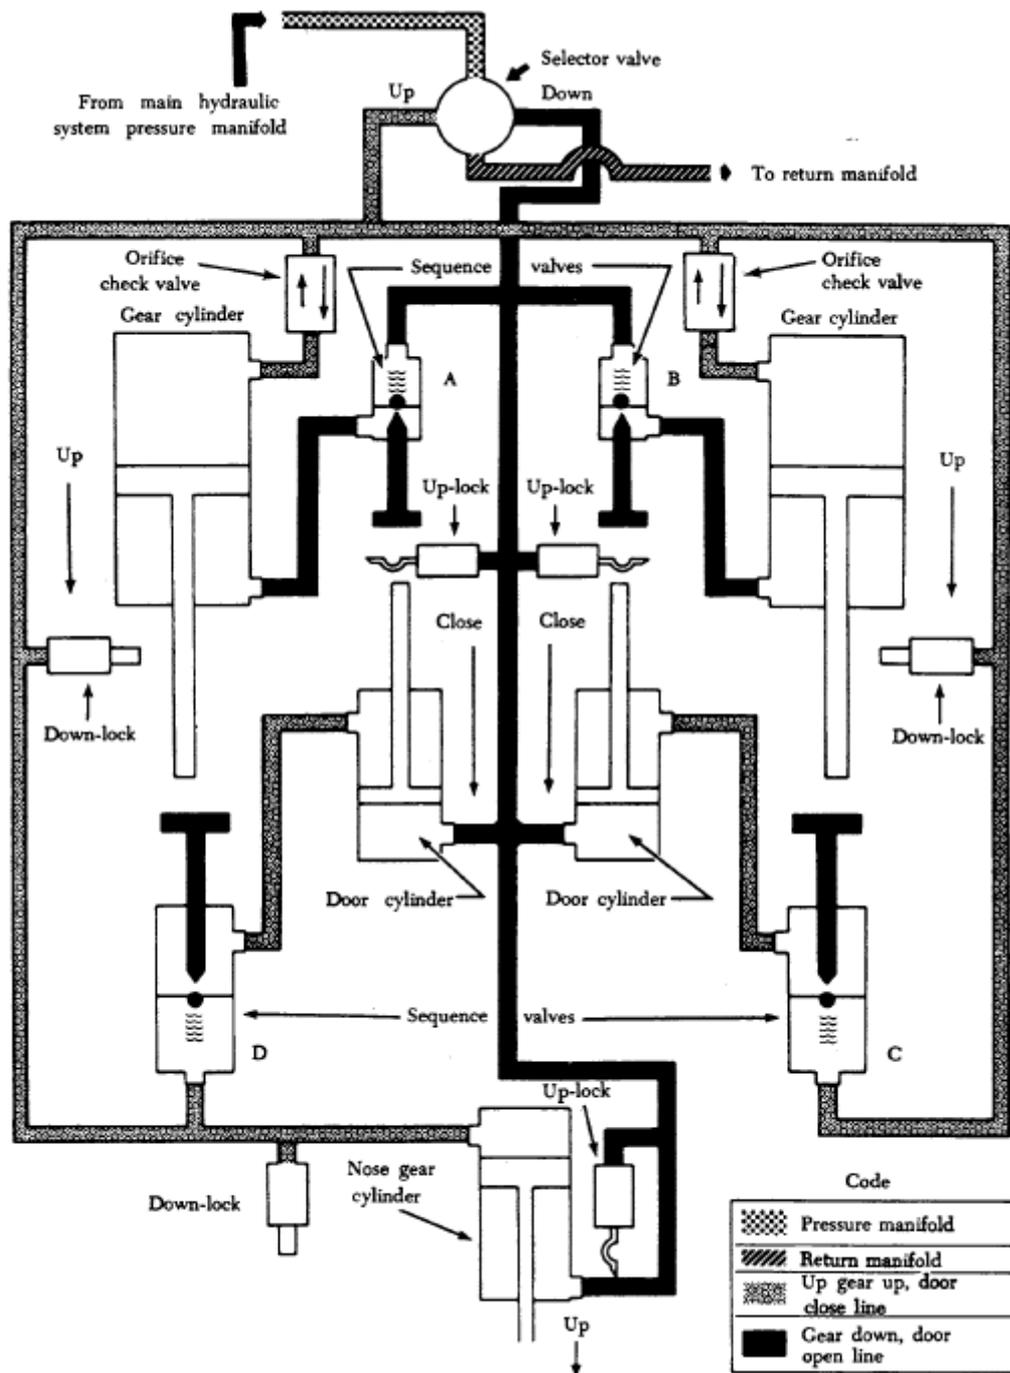

FIGURE 9-14. Hydraulic landing gear retraction system schematic.
3. First, consider what happens when the landing gear is retracted. As the selector valve (figure 9-14) is moved to the "up" position, pressurized fluid is directed into the gear up line.
5. Notice what happens to the fluid flowing to sequence valves C and D in figure 9-14. Since these sequence valves are closed, pressurized fluid cannot flow to the door cylinders at this time. Thus, the doors cannot close. But the fluid entering the three downlock cylinders is not delayed; therefore, the gear is unlocked.